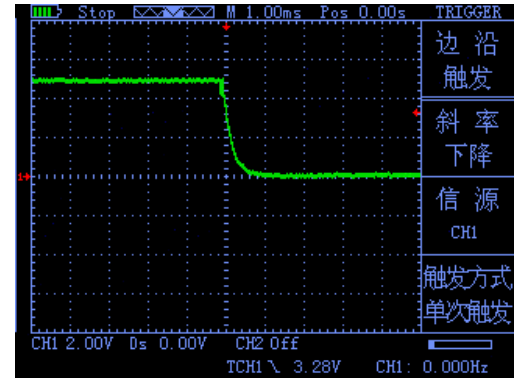

Figure 3-4
- ① Press "CH1 key" → press "F3" key to set the coupling to "DC."
- ② Press the "TRIG" button to display the edge trigger menu settings.
- ③ In this menu, press "F1" key to set the edge type "slope down", press "F2" key to set the source "CH1", press "F3" key to set the trigger mode to "single".
- ④ Press "RUN" key, the left corner of the display screen will displays "Ready", waiting for the signal meets the trigger condition occurs. If the trigger signal reaches the certain conditions, it will displays on the screen. With this feature you can easily capture the event accidental, such as a suddenly low voltage: press "RUN" key to start the wait when there is a low level occurs, the devices will automatically trigger and the trigger waveform record before and after a period of time off." HORIZ" key can change the horizontal position of the trigger position, then you can get different lengths, which can easily observe the waveform. See Figure 3-4